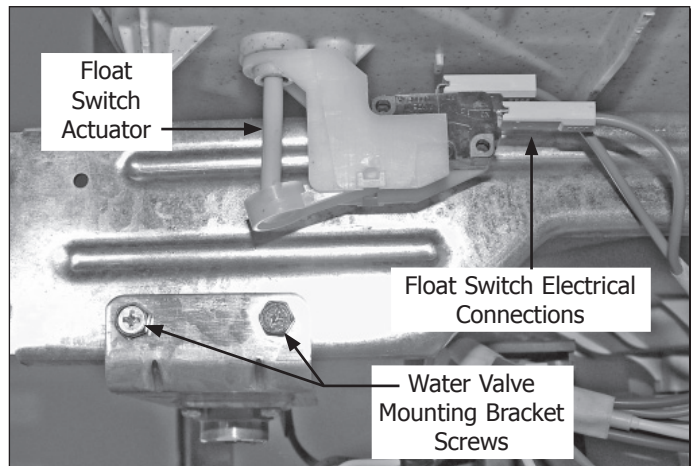

Figure 4-26.
5. Extract the two Phillips head screws securing valve mounting bracket to front cross brace. (See Figure 4-26)
3. Disconnect the wire harness connections from the float switch. (See Figure 4-26)